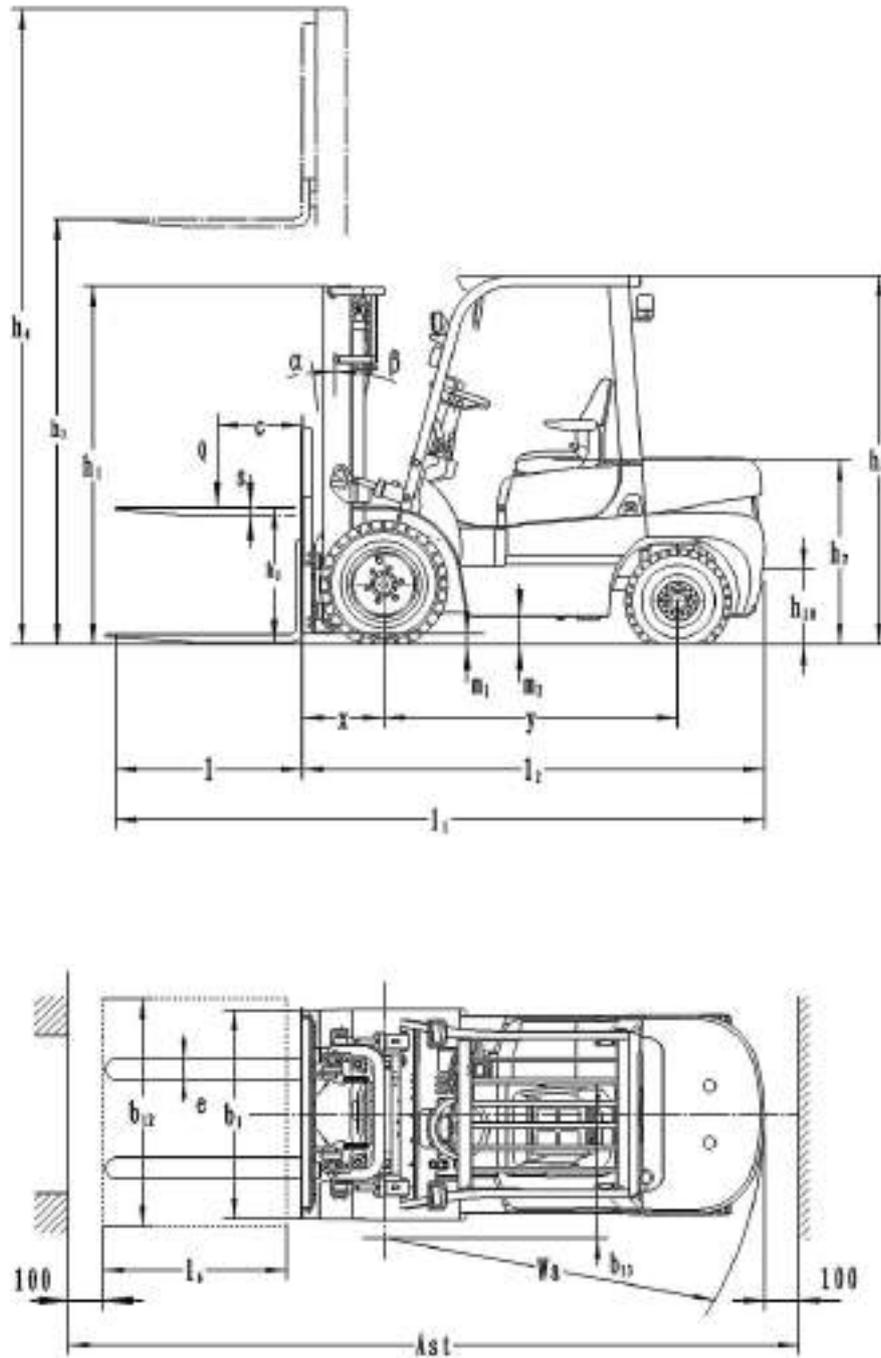

Fig. 1-1 Overall Dimensions
1. Overall Dimensions (as shown in Fig. 1-1)